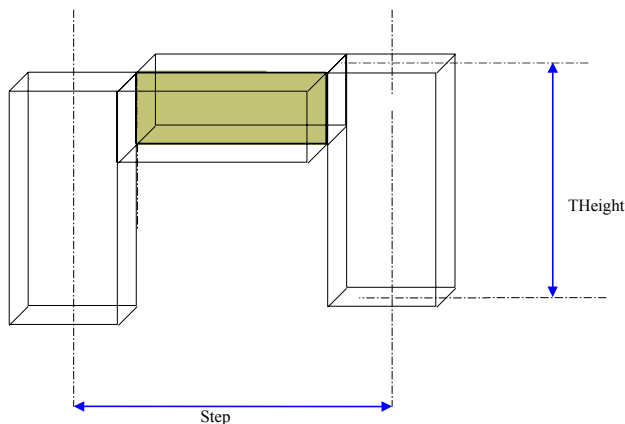

Figure 1.4: Parameters defining the geometry of the generic line device
Given a potential treatment area, you can place a line treatment between two nodes by giving the start and end nodes, step and total device height. The meaning of step and total device height is illustrated in figure 1.4.
- Inter-foot step `pro.Step` as shown in figure 1.4.
- Maximum device height `pro.THeight` as shown in figure 1.4.